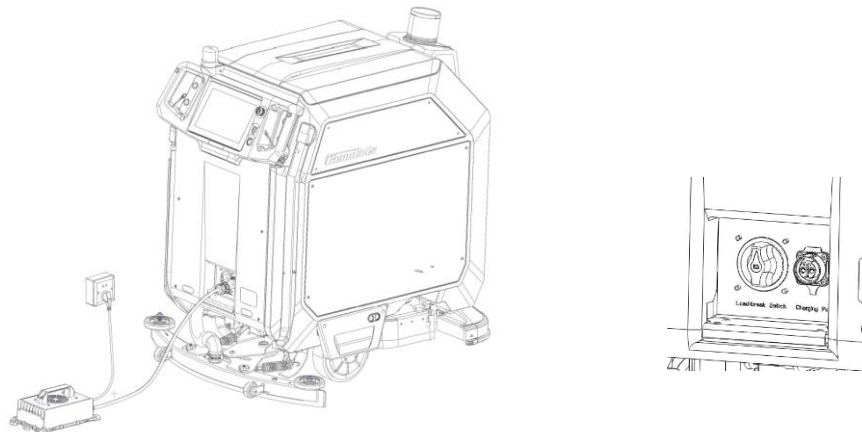

FIG.33
- 3) Connect the input plug of the charger to the AC power source as shown in FIG.33.